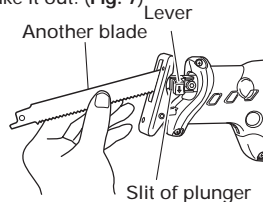

Fig. 7
- (1) If a part of the broken saw blade is sticking out of the small slit of the plunger, pull out the protruding part and take the blade out.
- (2) If the broken saw blade is hidden inside the small slit, hook the broken blade using a tip of another saw blade and take it out. (Fig. 7)